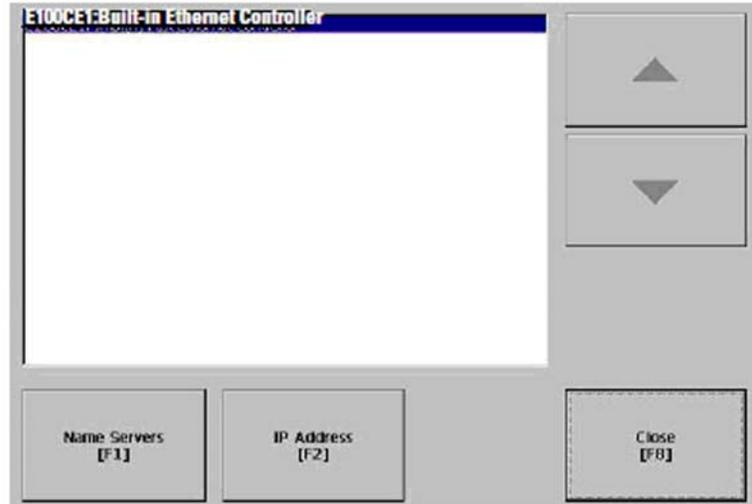

Figure 4-17.
17. From The Network Adaptors screen, with Built-in Ethernet Controller highlighted, press IP Address [F2]. See Figure 4-17.